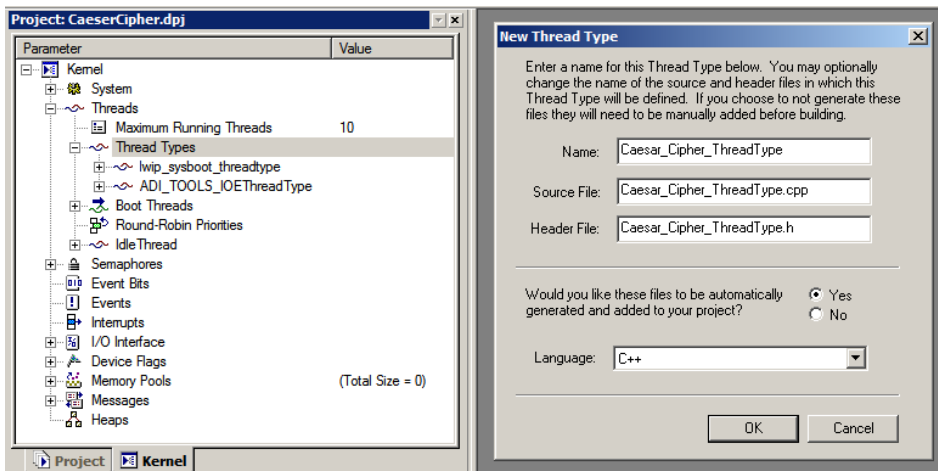

Figure 2-3. New Kernel Thread Type
1. From the **Kernel** tab of VisualDSP++ **Project** window, navigate to **Kernel**→**Threads**→**Thread Types**. Right-click and select **New** thread type. Type `Caesar_Cipher_ThreadType` in the **Name** field, leave **Source File** and **Header File** as is, automatic source code generation as **Yes**, and leave the **Language** as **C++** (Figure 2-3).